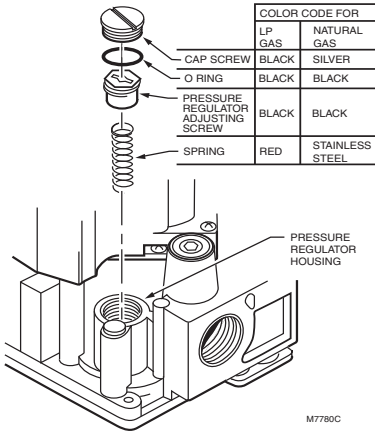

Fig. 4. 393691, 394588 Conversion kit installation in regulator
4. Insert the replacement spring. Refer to Fig. 4.